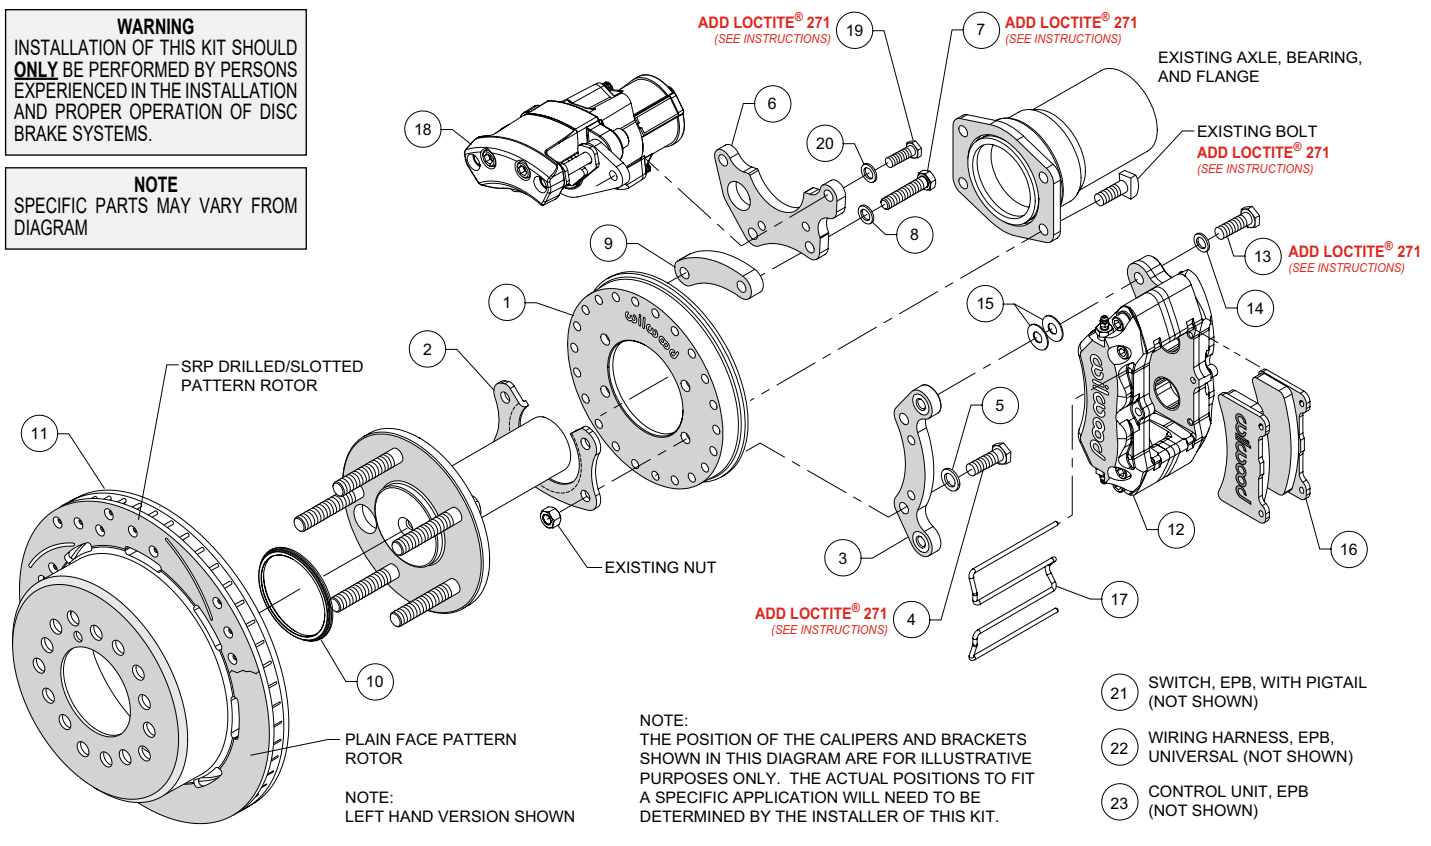
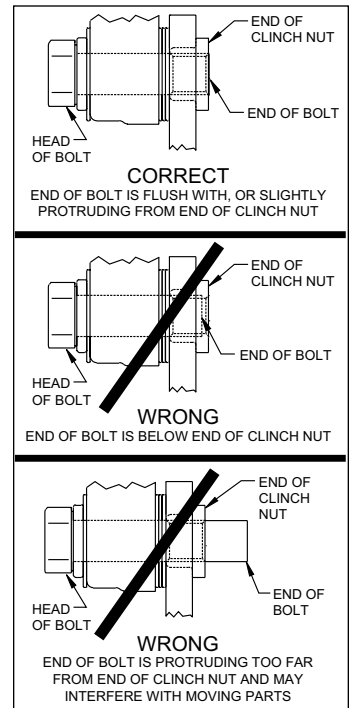

Figure 1. Typical Installation Configuration
Figure 5. Clinch Nut Engagement Diagram
NOTE: Numbers in parenthesis refer to the parts list and Figure 1 on the preceding pages.
CAUTION: All mounting bolts must fully engage clinch nuts. Be sure to check that all bolts are either flush or protruding through flanged side of clinch nut after shimming, Figure 5.
- Orient the backing plate (1) as shown in Figure 1 and Photo 1, and slide it onto the axle housing flange. Ensure the backing plate fits flush against the axle housing flange. Reinstall the axle into the axle housing.
- Install the bearing retainer (2) with the opening pointing upward and the lip facing inward (toward the bearing), as shown in Figures 1 and 4, and Photo 2. Secure retainer and backing plate to the axle housing flange using the Original Equipment Manufacturer (OEM) bolts and nuts, Figure 1 and Photo 3. Apply red *Loctite*® 271 to the OEM bolt threads and torque to OEM specifications.
- Start by determining the best location for the service caliper (12). This caliper is usually mounted in the 3:00 or 9:00 o'clock position, but may be rotated up or down approximately 45 degrees and still allow for proper bleeding, Photo 4. Orient the service caliper bracket (3) as shown in Figure 1 and Photo 5, and install to the backing plate (1) in the desired location using bolts (4) and washers (5). Temporarily tighten bolts. Next, mount the service caliper to the bracket using bolts (13) and washers (14). Temporarily tighten bolts. Check that the caliper (including inlet fitting and hose) has sufficient clearance to all surrounding components through the full suspension travel. Relocate the caliper/bracket on the backing plate as needed to ensure proper clearance is achieved.
- Determine the best location for the EPB caliper (18). **NOTE:** *The EPB caliper motor extends farther inboard than the service caliper and therefore needs additional consideration when determining a mounting location with sufficient clearance.* In the example application shown in Photo 6, the EPB caliper has sufficient inboard clearance to the leaf spring. However, if the EPB caliper were mounted closer to the 12:00 o'clock position, the inner body of the vehicle would hit the caliper during full compression of the suspension.
- Orient the EPB caliper bracket (6) as shown in Figure 1 and Photo 7, and install to the backing plate (1) in the desired location using bolts (7), washers (8), and spacer (9). Temporarily tighten bolts. **NOTE:** The EPB bracket is reversible. In one direction the bracket will position the EPB caliper closer to the service caliper, and vice versa if reversing the bracket. Next, mount the EPB caliper (18) to the bracket using bolts (19) and washers (20). Temporarily tighten bolts. **NOTE:** EPB calipers are Left and Right handed, however they can be used on either side of the vehicle to best suit your specific application. Check that the EPB caliper (including wiring harness connector) has sufficient clearance to all surrounding components through the full suspension travel. Relocate the EPB caliper/bracket on the backing plate as needed to ensure proper clearance is achieved.
- Once the caliper positions have been determined, remove both the service (12) and EPB (18) calipers, leaving both brackets in place on the backing plate. For both brackets, remove the bolts one at a time, apply red *Loctite*® 271 to the threads, and torque to 35 ft-lb.
- Slide the rotor registration adapter (10) onto the register on the axle flange with the smaller O.D. facing toward the rotor/hat (11), Photo 8. Align the correct hole pattern in the rotor/hat with the stud pattern on the axle flange and slide into place, Figure 1. **NOTE:** The rotor/hat must fit flush against the axle flange or excessive rotor run out may result. Install three lug nuts (finger tight) to keep the rotor/hat assembly in place while continuing with the installation. **NOTE:** Some OEM and after market axles come with stud sizes larger than 0.50" diameter. Verify stud size and have a qualified machine shop drill the bolt circle of the hat/rotor to the correct stud size, if necessary.
- NOTE:** Please reference the caution statement at the beginning of the assembly instructions. Remount the service caliper (12) onto the caliper mounting bracket (3) using bolts (13) and washers (14), as shown in Figure 1. Initially place two .035" thick shims (15) on each bolt between the caliper and the bracket, Photo 9. Temporarily tighten the mounting bolts and view the rotor (11) through the top opening of the caliper. The rotor should be centered in the caliper, Photo 10. If not, adjust by adding or subtracting shims (15) between the bracket (3) and the caliper (12). Always use the same amount of shims on each of the two mounting bolts. **NOTE:** The end of each bolt must be flush with or slightly protruding from the head of the clinch nut, as shown in Figure 5. If necessary place spare shims (15) between washer (14) and caliper mounting ear to achieve the proper clinch nut engagement. Once the caliper alignment and clinch nut engagement are correct, remove the bolts one at a time, apply red *Loctite*® 271 to bolt threads, and torque to 40 ft-lb.
- Mount the EPB caliper (18) onto the caliper mounting bracket (6) using bolts (19) and washers (20), Figure 1. Apply red *Loctite*® 271 to bolt threads, and torque to 30 ft-lb.
- NOTE:** *The service caliper (12) in this brake kit utilizes a 1/8-27 NPT pipe thread inlet. OEM rubber brake hoses generally cannot be adapted to Wilwood calipers.* The preferred method is to use steel adapter fittings at the caliper, either straight, 45 or 90 degree (use PTFE tape on pipe threads of adapter fitting for proper sealing to caliper) and enough steel braided line to allow for full suspension travel. **Carefully route hoses to prevent contact with moving suspension, brake or wheel components.** **NOTE:** *Wilwood hose kits are designed for use in many different vehicle applications and it is the installer's responsibility to properly route and ensure adequate clearance and retention for brake hose components.* Wilwood offers universal brake flex line hose kits, domestic (3/8-24 IF) chassis fittings, order: